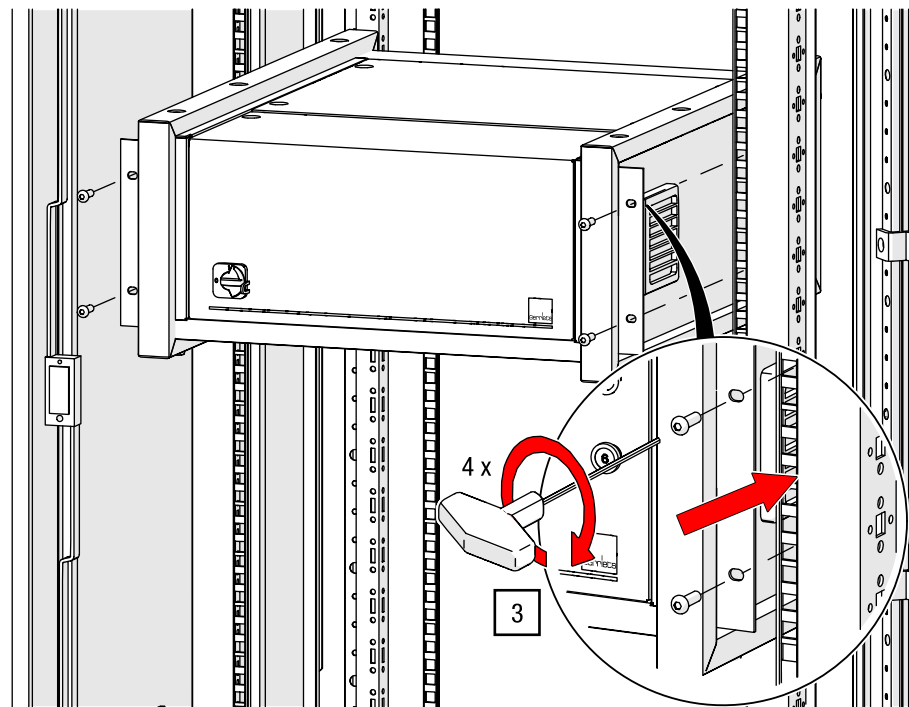

Fig. 95: Fasten G-FRAME in rack (control unit model may vary)
3. Position the G-FRAME control unit in the 19-inch rack and fasten it with suitable mounting material (see Fig. 95).